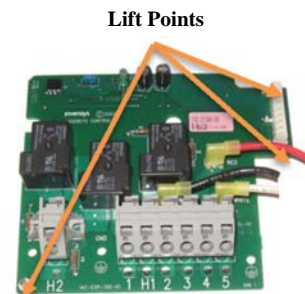

FIGURE 2
6. Using the lift points, gently lift the heater relay board straight out of the control box. **Figure 2**
2. Making sure all the screw holes are lined up, use the lift points and press down firmly to secure the relay board. **Figure 2**